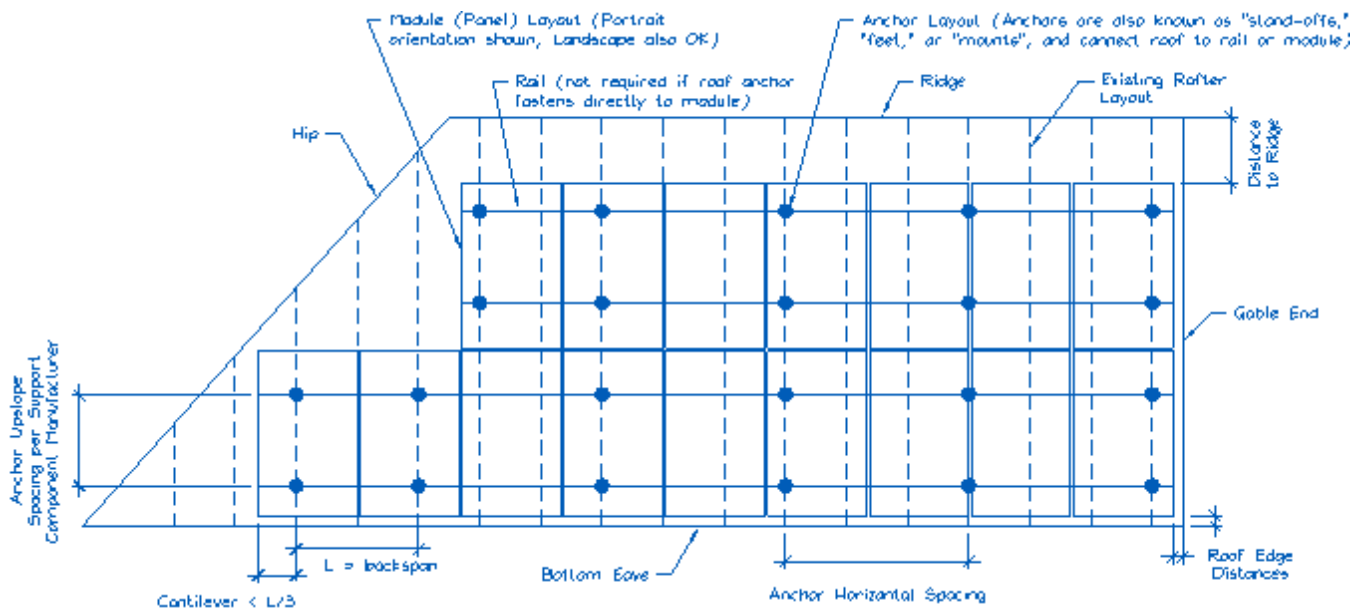

Figure 2. Sample Solar Panel Array and Anchor Layout Diagram (Roof Plan).
- E. Is a roof plan of the module and anchor layout attached? (see Figure 2) Y N
- 1) Proposed anchor horizontal spacing (see Figure 2): _____' - _____"ft-in